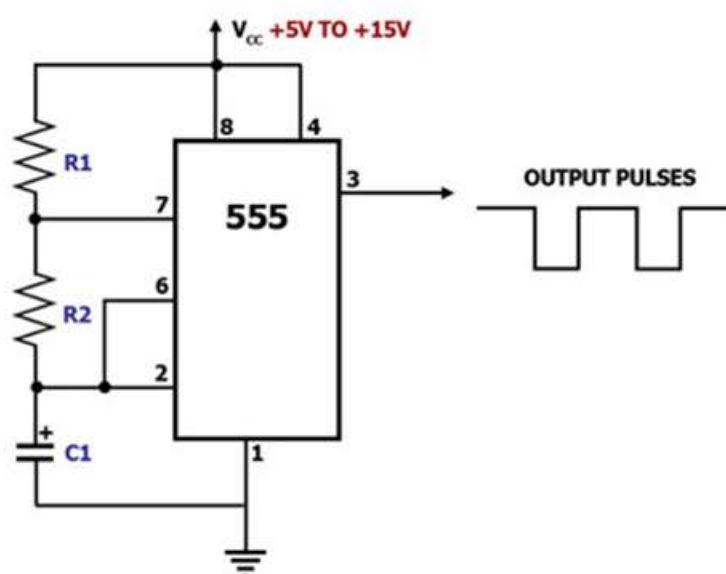

Figure 3.1: 555 Astable Multivibrator Circuit
- Study the operation of the circuit shown in Fig.3.1.